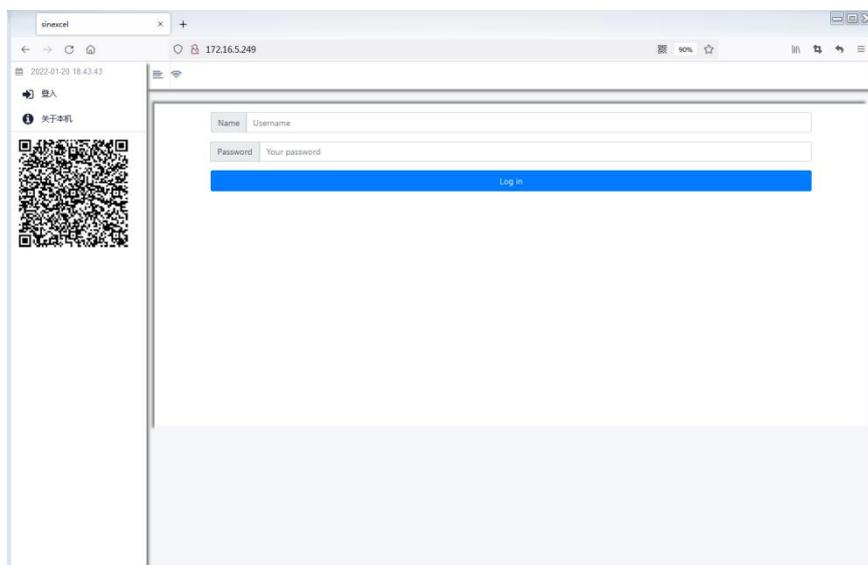

Figure 7.1 Login Interface
Use Ethernet connection. First, open the browser on the computer desktop(Google Chrome recommended), then enter the default IP of the machine (192.168.1.10) in the URL bar of the browser, and the login interface shown in Figure 7.1 will appear.
3) First, open the browser on the computer desktop (Google Chrome is recommended), then enter the machine 's default IP (192.168.1.10) in the browser 's URL bar, and the login interface shown in Figure 7.1 will appear.
Click "Log in" to enter the background operation interface of PWS1-135M, as shown in Figure 7.1.